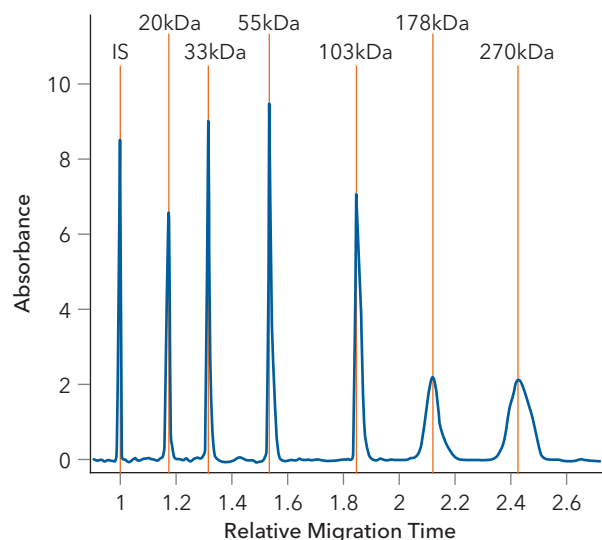

FIGURE 4. CE-SDS Molecular Weight Markers run on CE-SDS PLUS.
6. If you ran the CE-SDS Molecular Weight Markers, seven well-defined peaks should be detected as shown in FIGURE 4.